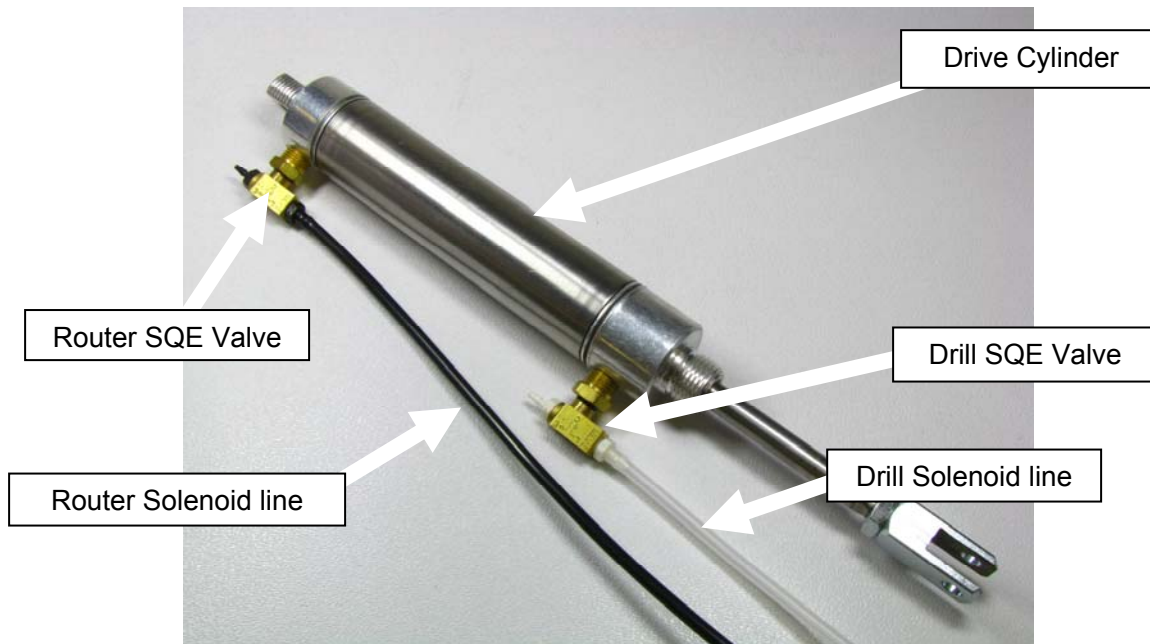

Fig 21
4. Listen for constant hissing and feel for leaking air at the open barbs on the SQE valves (or at the exhaust ports of the Rout Solenoid and the Drill Solenoid). **See Fig 21.**
11. Listen for constant hissing and feel for leaking air at the open barbs on the SQE valves (or at the exhaust valves of the Router and the Drill Solenoids). **See Fig 21.**